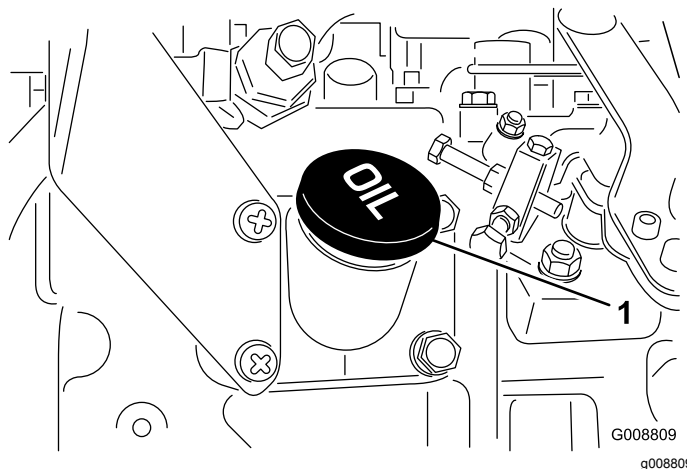

Figure 13
4. If the oil is below the safe range, remove the fill cap (Figure 13) and add oil until the level reaches the FULL mark. **Do not overfill.**